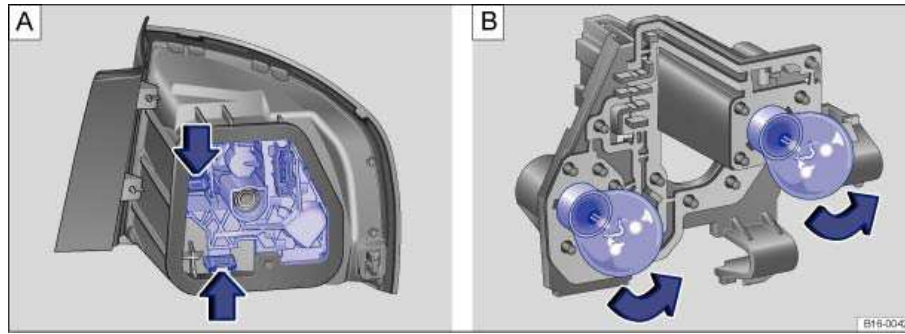

Fig. 178 Taillights: A: Removing the bulb holder. B: Removing the taillight bulbs.
5.	Release the bulb holder from the locking tabs → fig. 178 A (arrows) and remove the bulb socket assembly from the taillight assembly.